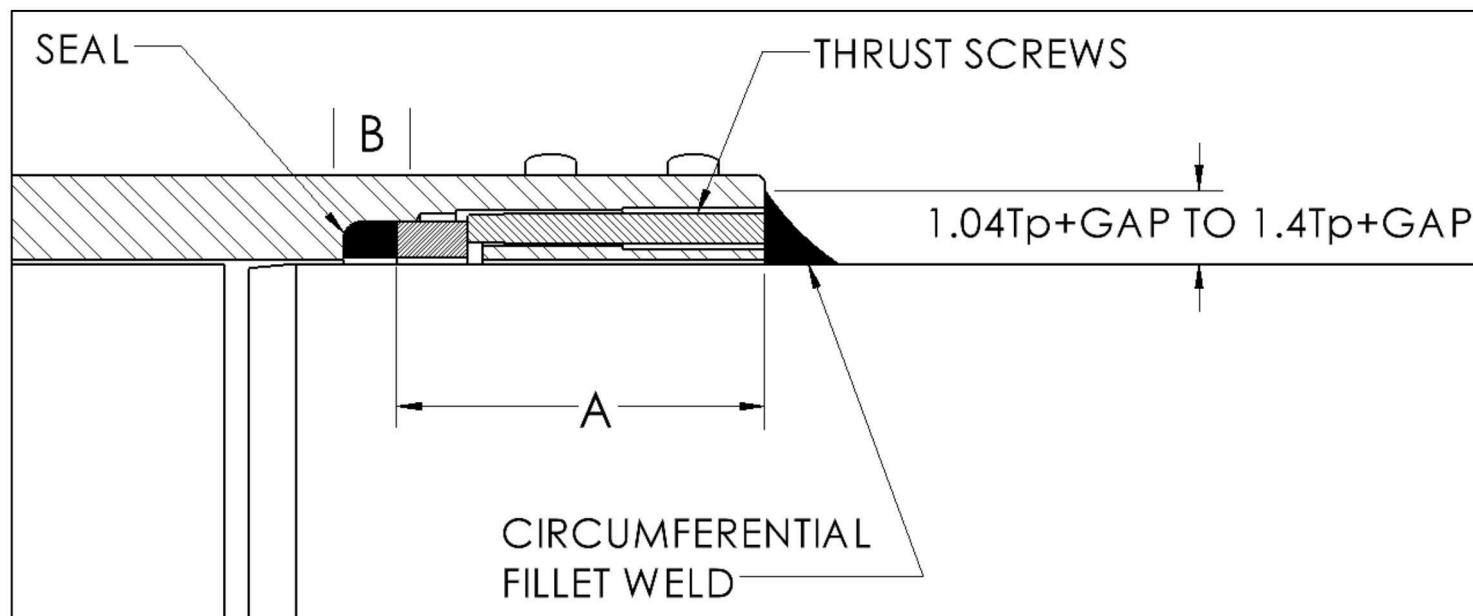

Figure 9
During welding the temperature around the seals must be monitored. Dimension "A", as measured during the initial installation, should now be used to mark off the location "B", as shown in Figure 9. To prevent damage to the seals, monitor the heat generated by welding or preheating, particularly at location "B", by using temperature crayons or probe thermometers. If the heat generated approaches the temperature limit of the seal material, which is indicated in the seal lubrication chart, welding should be discontinued or sequenced to another part of the fitting so that the affected area has a chance to cool.
1. Cut the thrust screws so they are flush with the PLIDCO Riser Weld+End. (See Figure 9)
2. Add a fillet weld to the end of the Riser Weld+End around the circumference of the pipe, and seal weld the end of the cut off thrust screws that are not encompassed by the fillet weld. (See Figure 9)